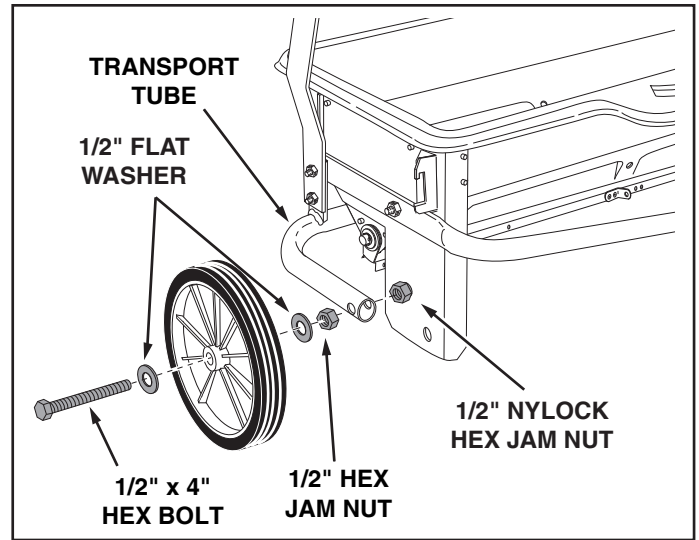

FIGURE 6
- Assemble a 1/2" flat washer, a wheel, another 1/2" flat washer and then a 1/2" jam nut onto a 1/2" x 4" hex bolt. Tighten the nut finger tight and then back off 1/4 to 1/2 turn. See figure 6.
- Assemble the bolt and wheel to the transport tube using a 1/2" nylock hex jam nut. **Tighten** the nut but don't collapse the tube. See figure 6.
- Assemble a wheel to the other side. See figure 6.